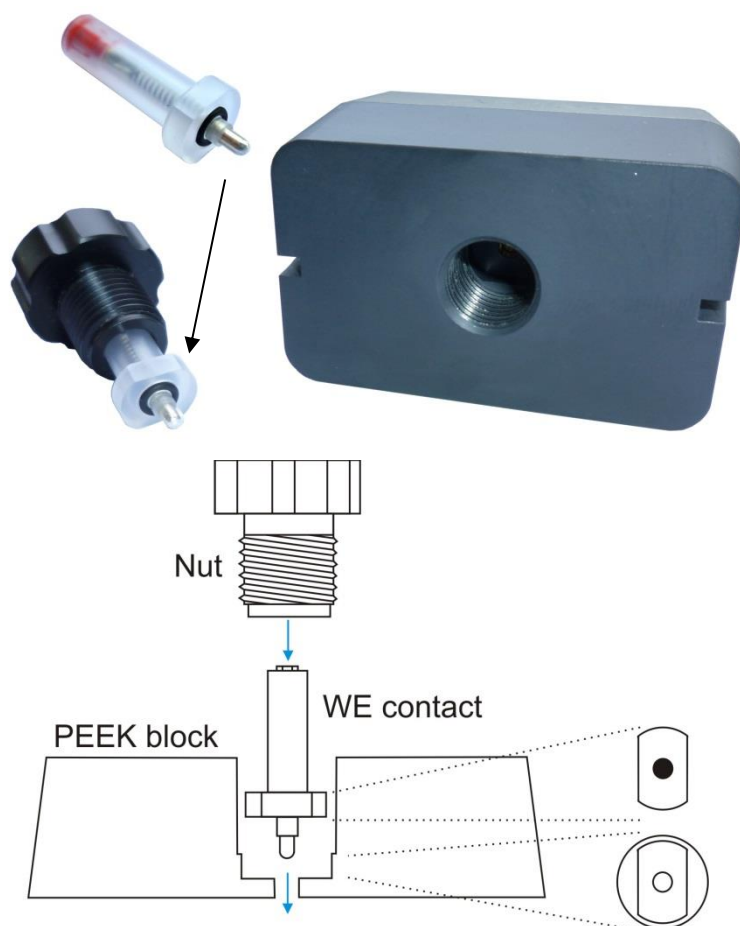

Fig. 13. μ -PrepCell – WE electrical contact assembly and WE holder. Below: schematic intersection.
2. Assure that the spring-loaded WE electrode contact holder (see fig 13) is never exposed to (corrosive) liquids because it may lead to corrosion of the spring inside of the contact and malfunction of the cell.